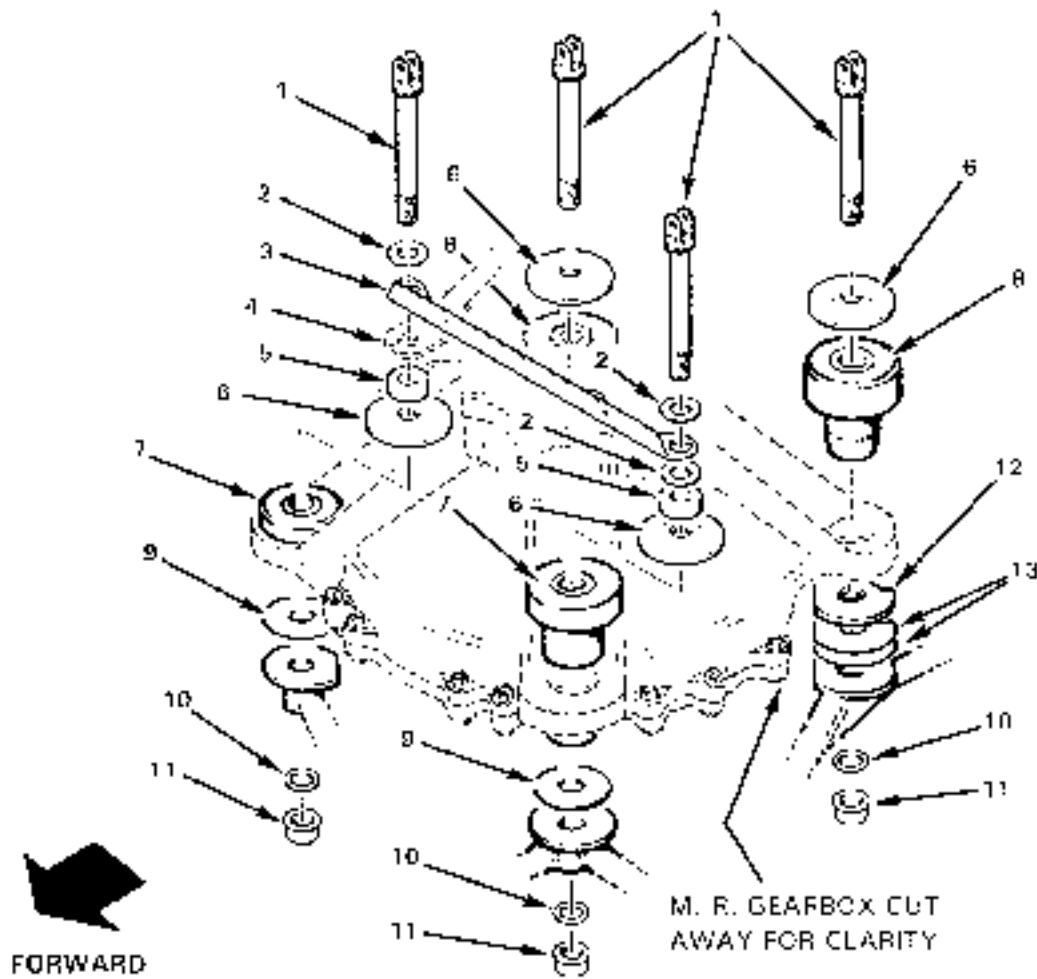

FIGURE 7-2A MAIN ROTOR GEARBOX INSTALLATION
4. Install MRGB mounting hardware per Figure 7-2A. Orient A650 fitting tabs laterally per Figure 8-9, special torque per Section 1.330, and torque stripe per Figure 2-1.